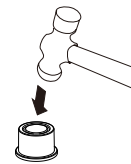

Fig. 2
2. Select the required plugs for installation. Plugs are used to size conduit holes or seal unused ones. For sizing plugs, knock out the membrane cleanly with a ball peen hammer or blunt punch. Apply solvent cement and insert the plugs into the holes. (Fig. 2)